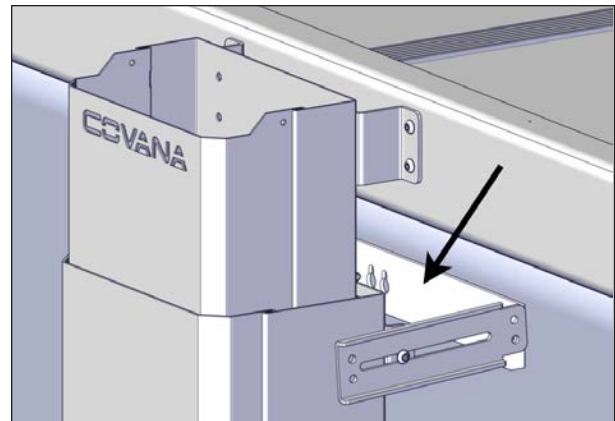

FIGURE 75: TOP TUB MOUNT BRACKET ALIGNMENT
5. With the sleeve and its arms, align the top and the bottom tub mount brackets, see Figure 75. Make sure the brackets will be fixed on a solid spa frame and no soft material between the brackets and the spa frame.